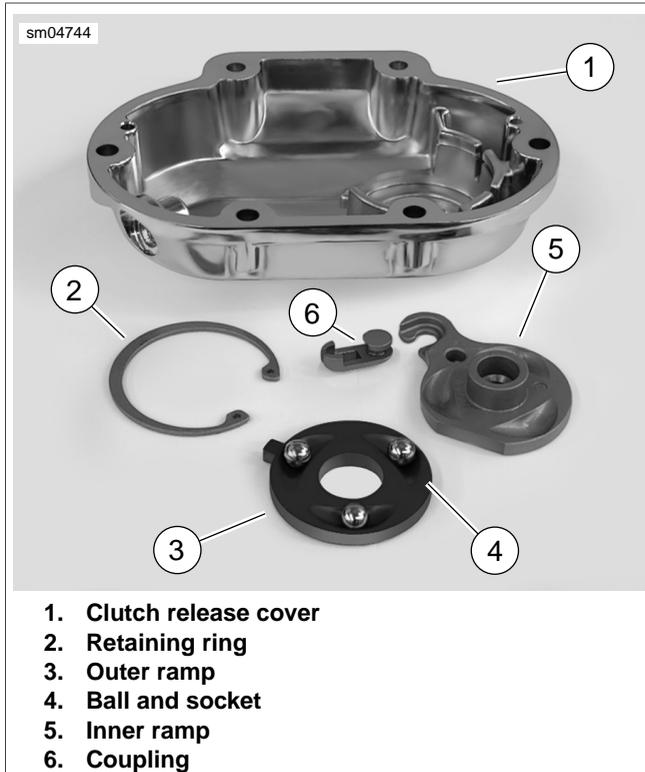

Figure 2-86. Disassemble Clutch Release Cover
9. Remove retaining ring securing ball and ramp mechanism to clutch release cover. See Figure 2-86.